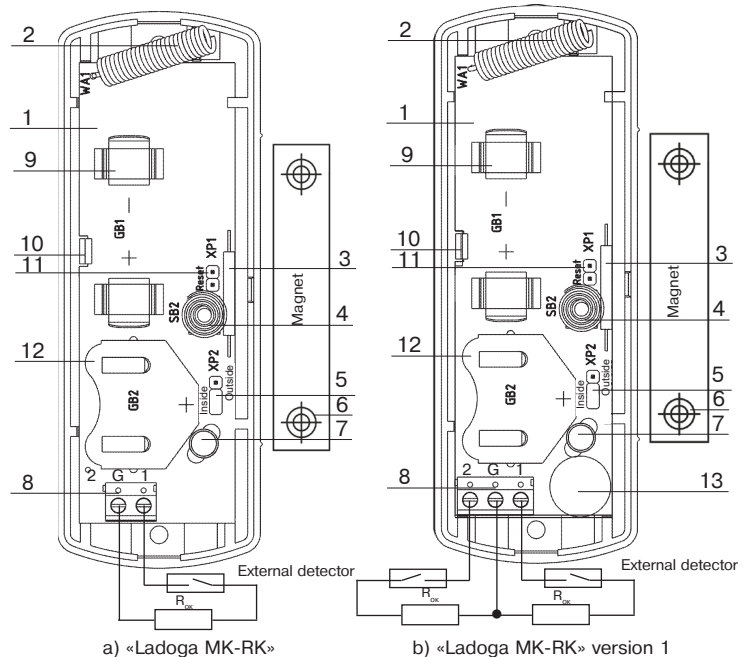

Figure 1
9.2 Install the PCB, connect the wires of monitored loops to terminal blocks (8) and close the cover. The length of the loops must not exceed 5 m. Install the terminal (EOL) resistor Rterm (5.1 kΩ) at the end of the loop as shown in Figure 1. The connections must be soldered or screwed.